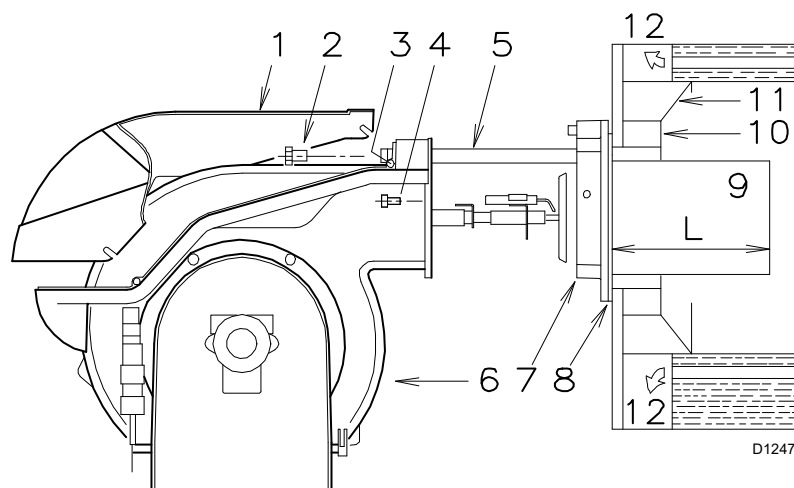

Fig. 7
For boilers having a water-cooled front the refractory fettling 10)-11)(Fig. 7) is not required unless it is expressly requested by the boiler manufacturer.
Secure flange 7)(Fig. 7) to the boiler plate interposing the supplied gasket 8)(Fig. 7). Use the 4 screws provided after having protected the thread with antiscuffing products.
- Retract the burner on its slide bars as shown in Fig. 7 pag. 10.